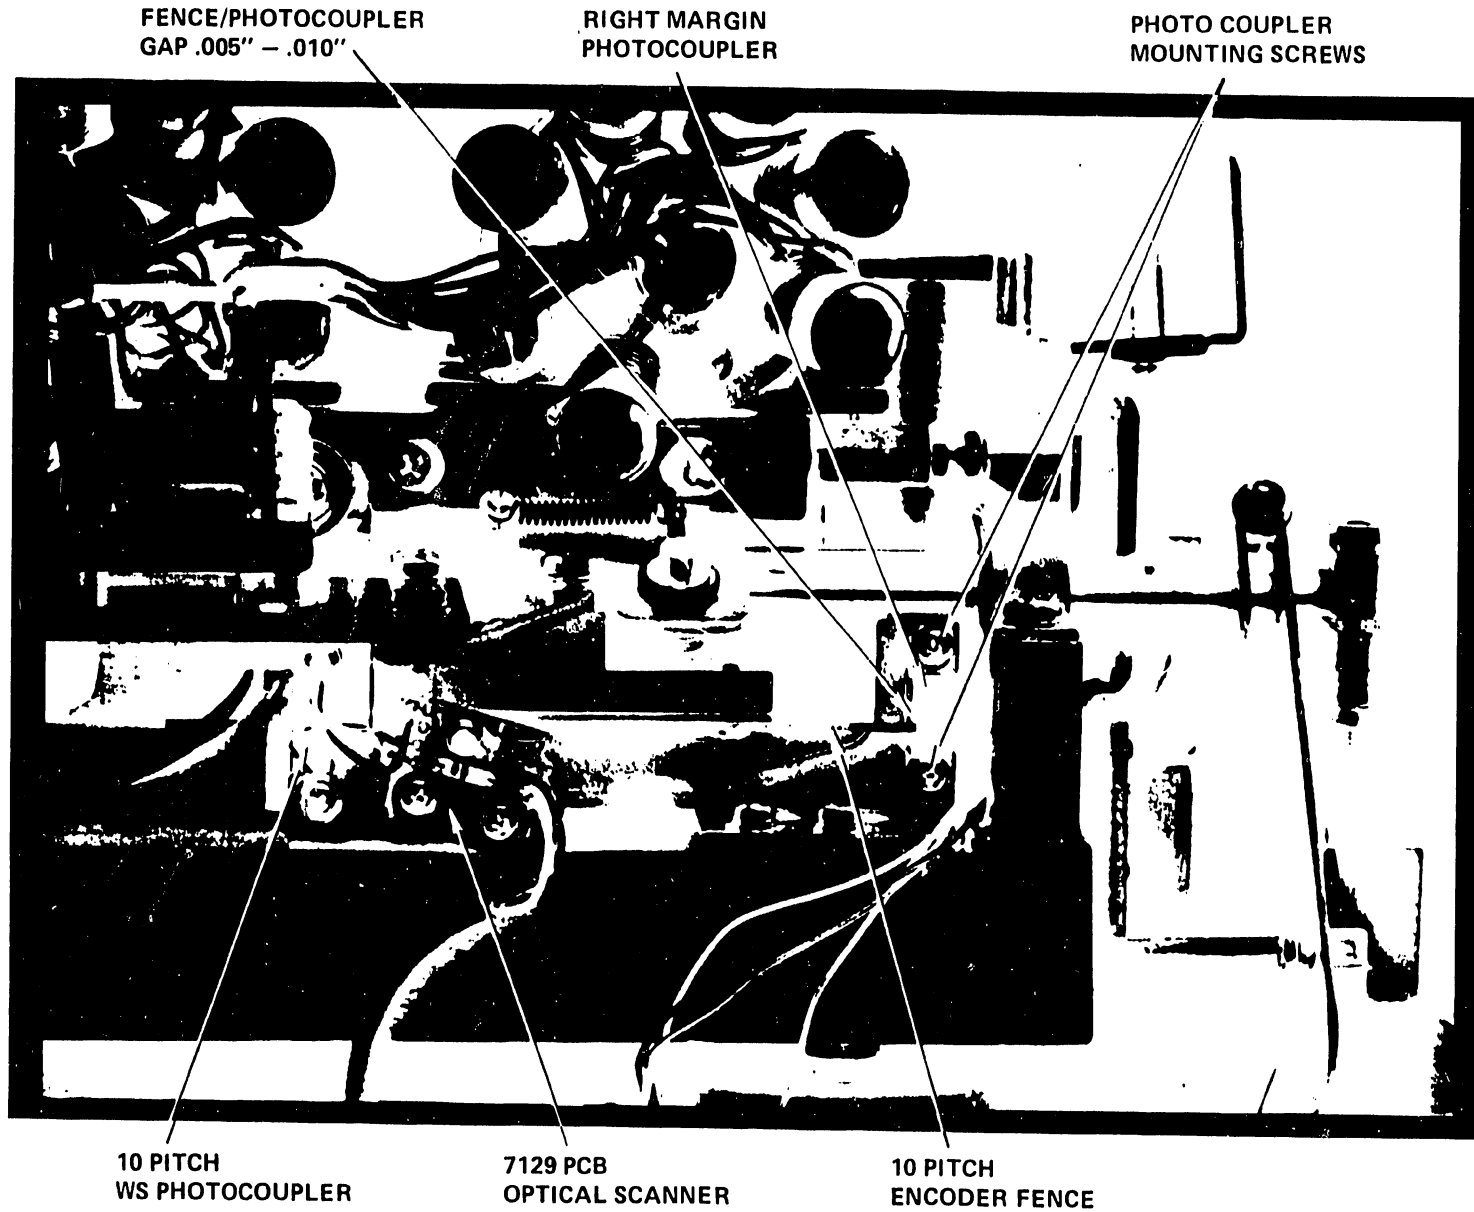

Figure 5-25. Margin Photocoupler Height Adjustment
- c. Margin Photocoupler Height - Move the carriage to each margin, in turn, and check the gap from the top of the 10 pitch encoder fence to the margin photocouplers. Move the photocouplers vertically to obtain the proper gap of .005" to .010". See Figure 5-25.